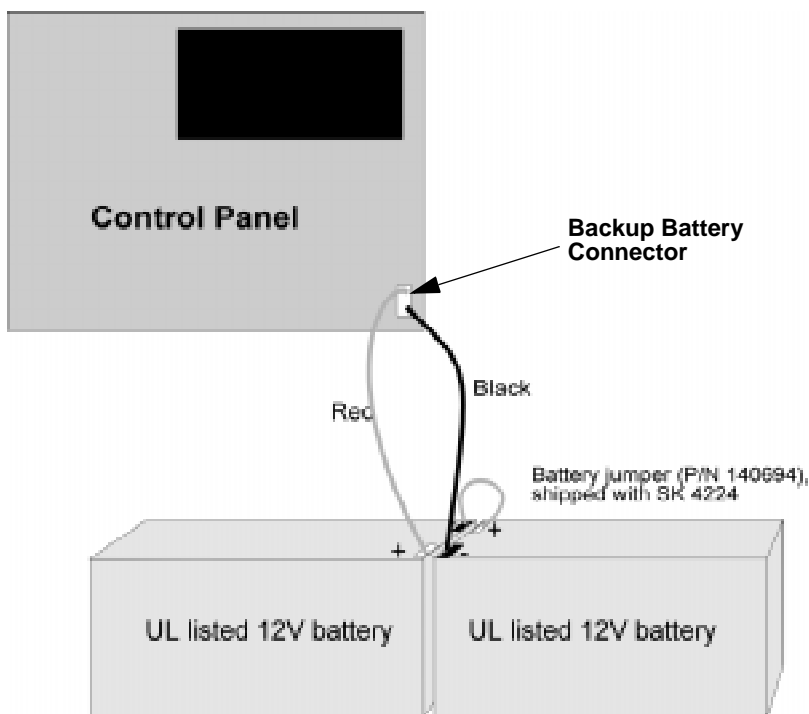

Figure 4-2 Battery Connection
2. Unplug the backup battery connector from the SK-4224 control panel. See Figure 4-2.
5. Reconnect the backup battery connector to the SK-4224 control panel. See Figure 4-2.